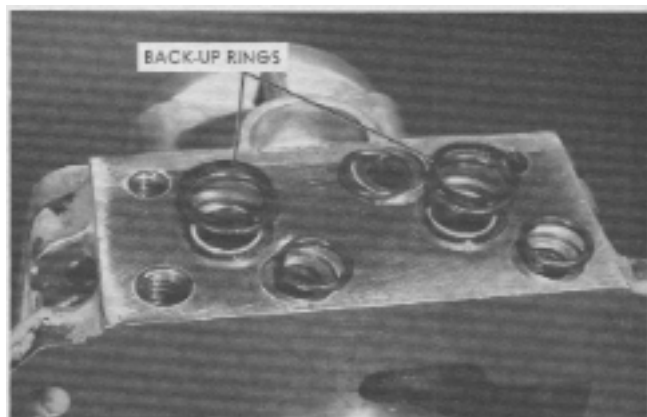

FIG. 18.
1. Place one small "O" ring in each of the two low pressure ports and one at the corner bolt hole that is counterbored to accept an "O" ring (see Fig. 18).
2. Place a large "O" ring in each of the two high pressure ports and then place a square section back-up ring on top of each of the large "O" rings, making sure they are centered exactly over the "O" rings (see Fig. 18).